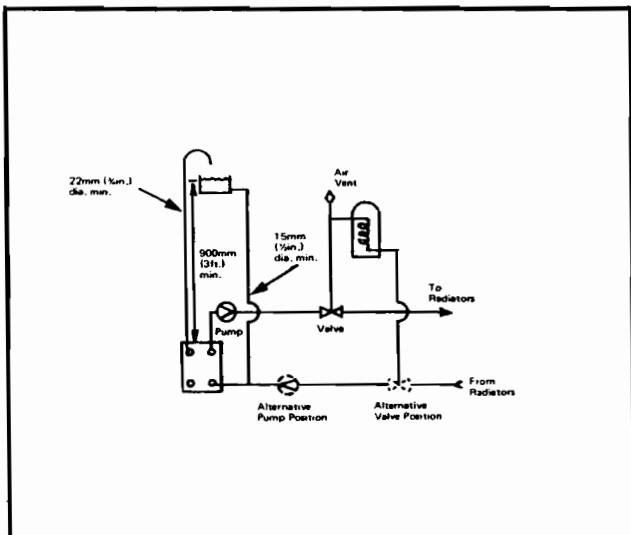

**Fig. 8 FULLY PUMPED WITH TWO POSITION DIVERTER VALVE**
**NOTE:** The minimum 900mm (3ft) static head shown in figs. 8, 9 and 10, and mentioned in section 1 in 'The System' on page 2, can be reduced to 300mm (1ft) providing the cold feed is connected directly into the spare return tapping on the boiler. A static head of less than 300mm (1ft) should not be used.